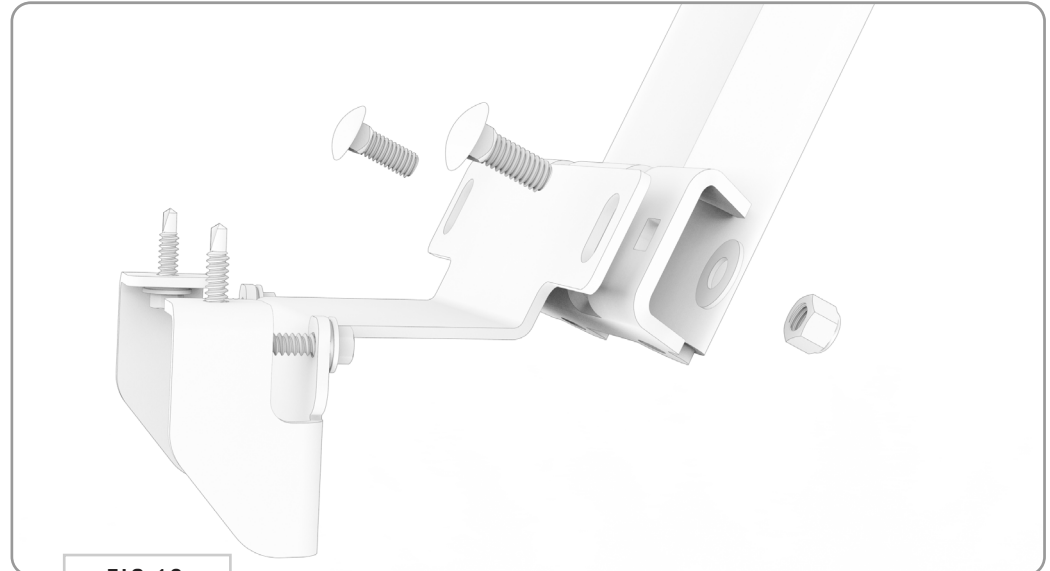

FIG 16
5.3 Reattach to Hangar Bracket: Loosely reattach your **Surf Pole** to the installed **Surf Pole Hangar Bracket** as shown (**FIG 16**) using the provided **3/8-16" Carriage Bolts, Flat Washers and Nylon Locknuts**.